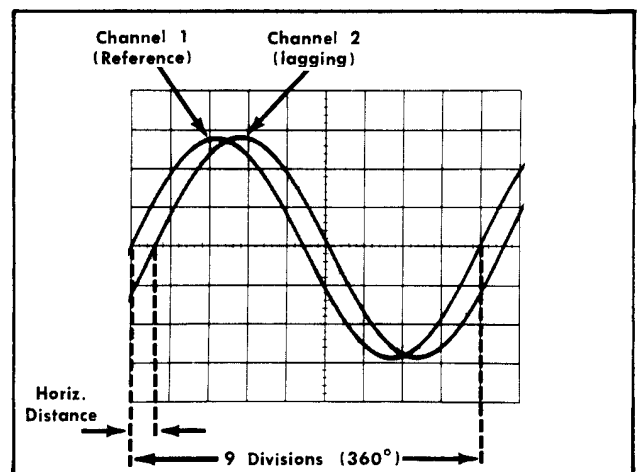
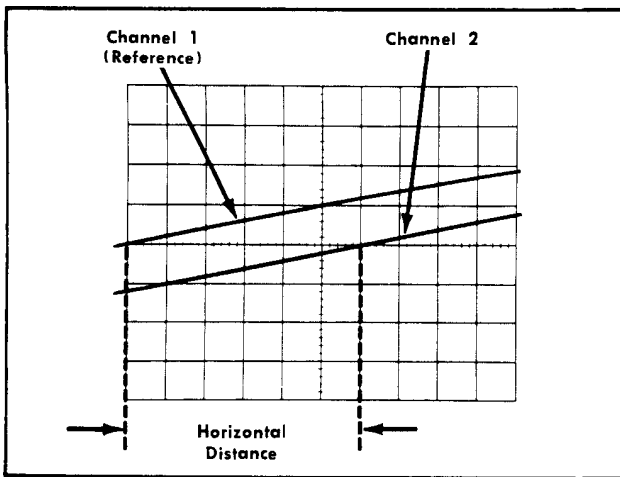

Fig. 2-15. Measuring phase difference.
Fig. 2-16. More accurate phase measurement with increased sweep rate.
5. Turn the VARIABLE TIME/DIV control until one cycle of the reference signal (Channel 1) occupies exactly nine divisions horizontally (see Fig. 2-15). Each division of the graticule represents  $40^\circ$  of the cycle ( $360^\circ \div 9 \text{ divisions} = 40^\circ / \text{division}$ ). The sweep rate can be stated in terms of degrees as  $40^\circ / \text{division}$ .
**Example.** Assume a horizontal distance of 0.6 divisions with a sweep rate of  $40^\circ / \text{division}$  as shown in Fig. 2-15.
**Example.** For example, if the sweep rate were increased 10 times with the magnifier, the magnified sweep rate would be  $40^\circ \div 10 = 4^\circ / \text{division}$ . Fig. 2-16 shows the same signals as used in Fig. 2-15 but with the magnifier on. With a horizontal distance of six divisions, the phase difference is: